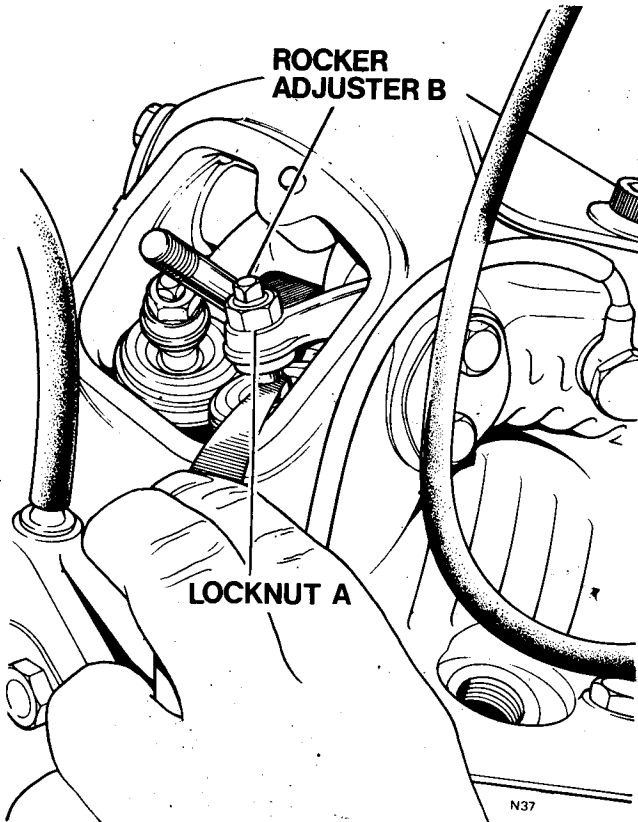

Fig. C9 Checking valve clearances
- 4 Using the correct feeler gauge (see table above for thickness) check the rocker clearance of the right side inlet valve. Fig. C9 shows the point where the feeler gauge is inserted.
- 5 If the clearance is correct i.e. the feeler gauge just nips, proceed to check the next valve as in (7). If gauge will not enter or if it does not nip, adjust as in (6).
- 6 Referring to Fig. C9, slacken the adjuster locknut (A) and screw out the adjuster (B) two turns. Place the feeler gauge between the adjuster and end of the valve stem and screw the adjuster in until it just nips the feeler gauge. Tighten the locknut and withdraw the gauge which should not be gripped tightly but should slide relatively easily from the gap. This clearance is now correct.